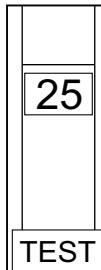

Figure 25. AC Circuit Breaker (ON)
9. Place AC circuit breaker (Figure 25) in the **ON** position.